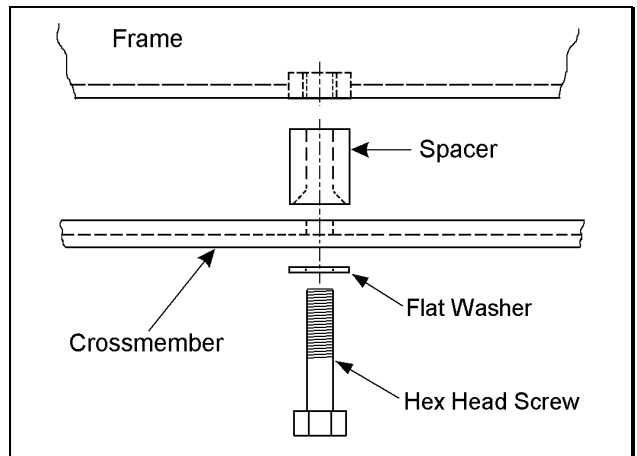

Figure 12b
6. If hex head screws were removed, install the hardware from kit 860483. See figure 12b.